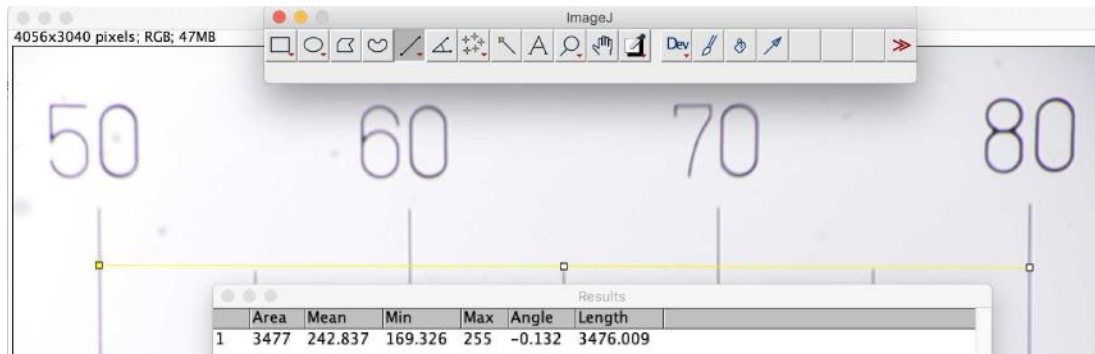

Figure 5: Line drawn using ImageJ on the picture taken with the PlanktoScope
4. Click on the line button (see Fig.5) and draw a line of known length by holding down the click
In this example (Fig.5), the line is 3476 pixel length for 30 μm , which means that here one pixel is 0.86, which differ from the expected value of 0.75 for this camera.
Length(micron)/Length(pixels) (see the example in Fig.5).